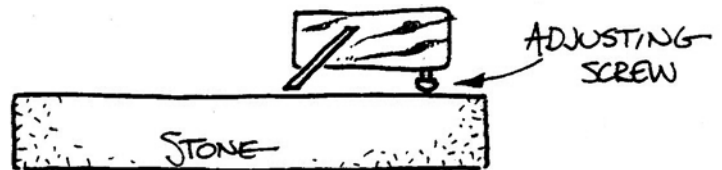

FIG 2 - SHARPENING
1. Hone the blade on its ground bevel, maintaining a 45° angle to the stone with the use of the Blade Sharpening Jig. Stroke into the cutting edge or "figure 8" the blade over the stone until you've raised a wire edge the length of the blade. (See Fig. 2.)